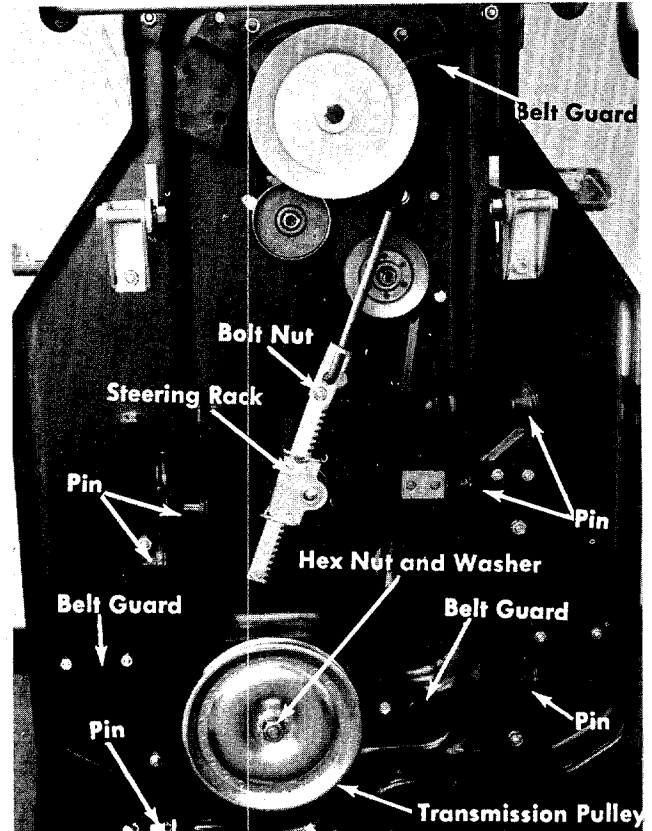

FIGURE 28. BOTTOM VIEW
Step 9. Removing the transmission belt. See figure 28.
- b. Remove the transmission pulley by removing the hex nut and washer. See figure 28.